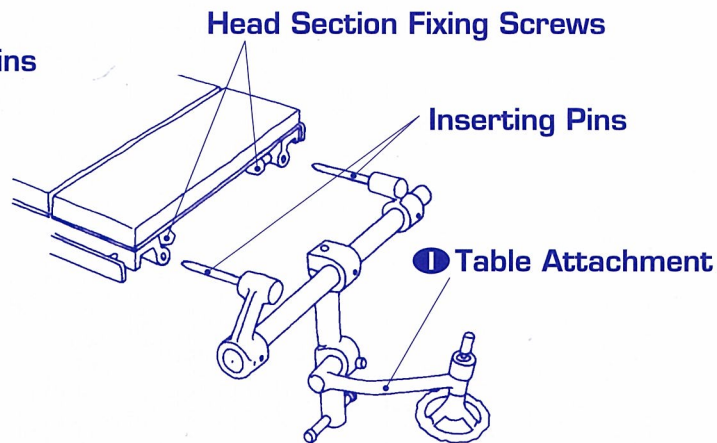

Fig.3-1
2. Insert both inserting pins into the bores and tighten "Head section fixing screws" ① on the Table. (Fig.3-1,3-2)